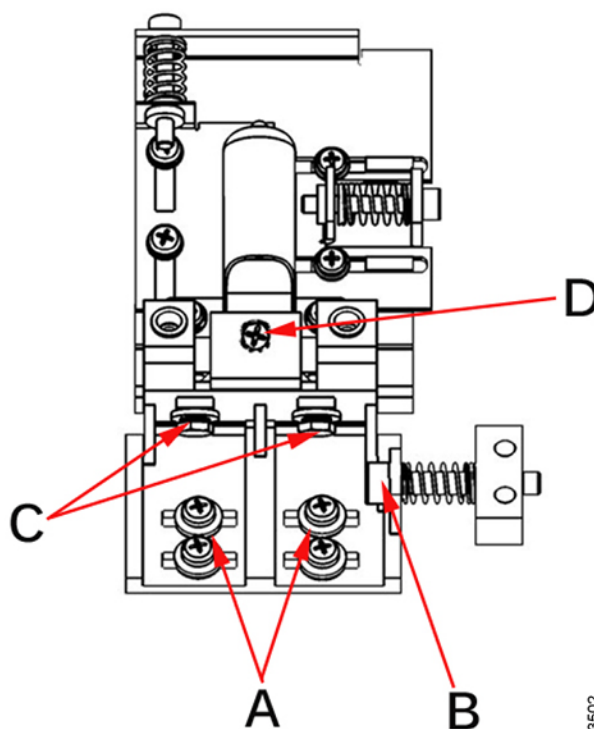

Fig. 4-153 Light field adjustment
2. If adjustment is required loosen the two screws C holding the light support, see **Fig. 4-153**.